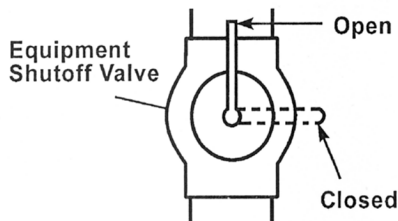

Figure 9 - Equipment Shutoff Valve
1. Open equipment shutoff valve (see Figure 9).
1. Close equipment shutoff valve (see Figure 9).